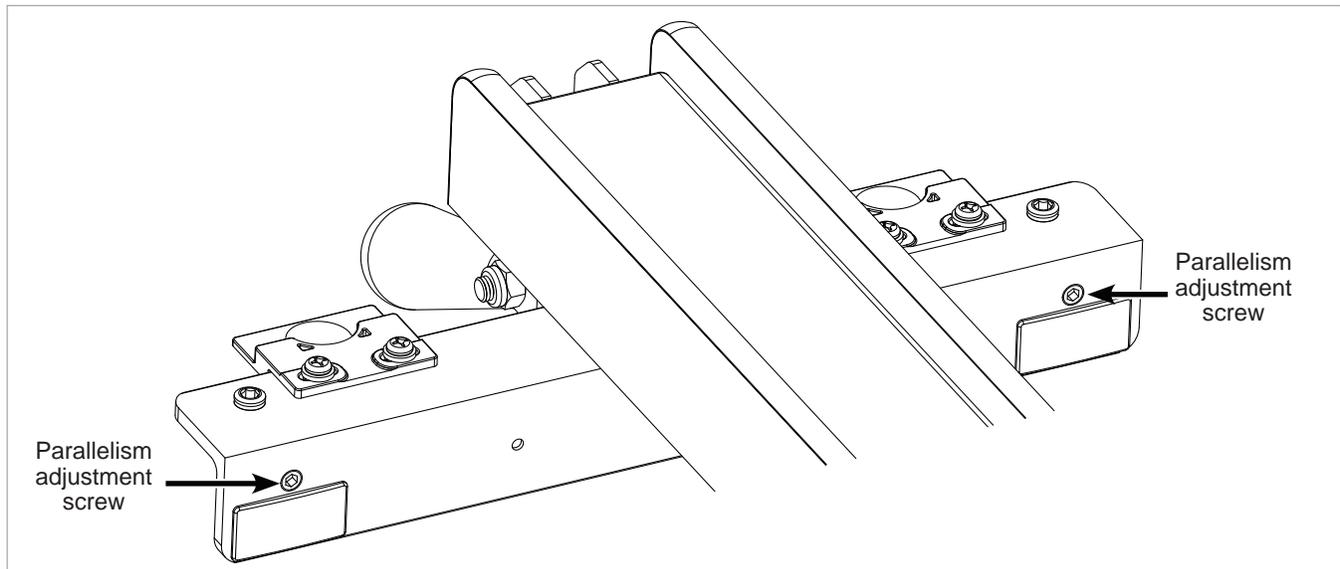

Fig. 31
20. Press down on the fence handle to clamp the fence to the front tube. If the fence does not clamp tightly enough to hold its position against a moderate amount of force, you can increase the clamping pressure by turning both parallelism adjustment screws clockwise using a 5 mm hex key. Those screws are located in the vertical portion of the fence cross-bracket (See Fig. 31). Alternatively, if too much force is required to push the fence handle down to clamp the fence to the front tube, you can reduce the clamping pressure by turning both parallelism adjustment screws counter-clockwise.
- i. The next step is to align the face plates to be parallel to the miter slots. Begin by sliding the fence along the front tube until the left face plate is flush with the right edge of the right miter slot. Lock the fence handle and check that the face plate is flush with the miter slot edge along its whole length (See Fig. 36). You can check this either visually or by running your finger along the face plate and miter slot edge. If there is any misalignment, you can correct it by turning one of the two parallelism adjustment screws in the vertical edge of the fence cross-bracket (See Fig. 31).